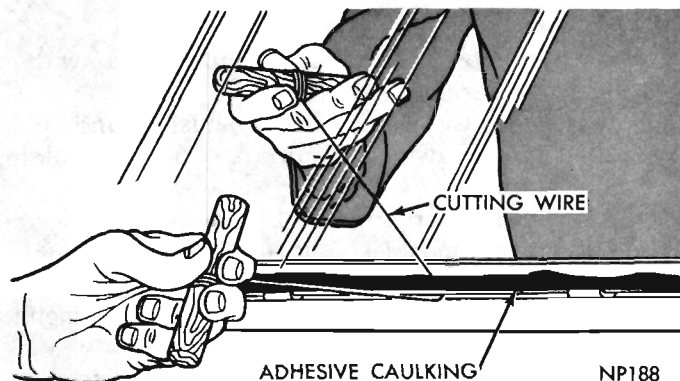

Fig. 1 Cutting Adhesive Caulking
(2) Remove window exterior mouldings using Tool C-4009A and inner garnish mouldings.
(3) Secure one end of a two foot length of tempered steel wire (.028 gauge max.) to a wooden handle.
(4) Remove quarter window lower weatherstrip.
(5) Insert other end of wire through adhesive at corner of window and secure to another wooden handle.
(6) With an assistant, carefully cut through adhesive across material by pulling wire, in a sawing motion, up one side, across top, down opposite side and across bottom (Fig. 1).
(7) With an assistant, remove glass from opening and if original glass is to be reinstalled, place on a protected surface.
(8) All old adhesive should be removed from glass and opening reveal using a putty knife or razor blade. **DO NOT use an oil base solvent to remove adhesive.**
(9) Using steel wool, remove loose flakes of ad-